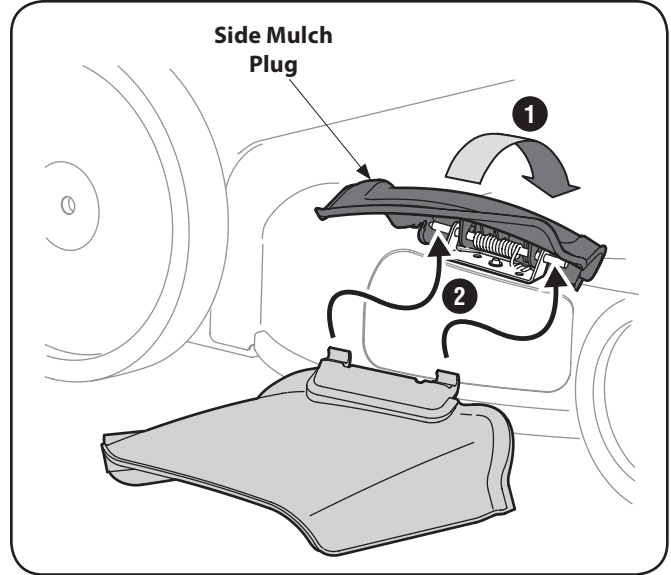

Figure 3-9
1. On the side of the mower, lift the mulch plug. See Figure 3-9.